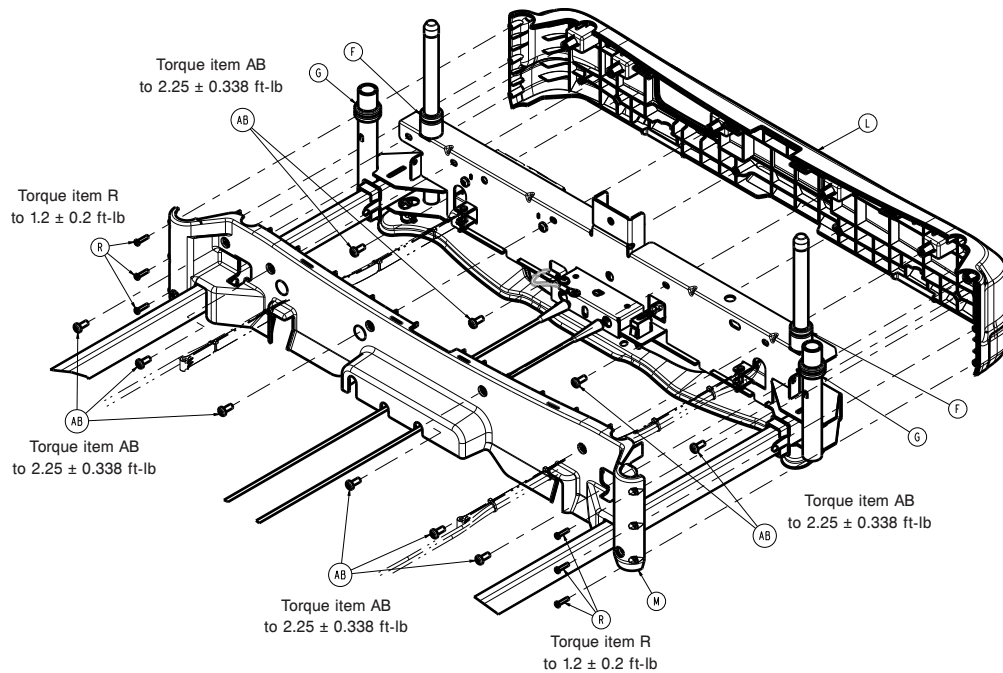

Figure 10 – Replacing the cover
6. Using a T15 Torx driver, remove the six outer screws (R) that secure the front cover (L) to the rear cover (M) (Figure 10). Save the screws.
7. Using a T30 Torx driver, remove the six screws (AB) that secure the front cover to the rear cover (M) (Figure 10). Save the screws.
9. Using a T30 Torx driver with a ratchet and 3" extension, remove the four screws (AB) that secure the front cover to the extender frame (Figure 10). Remove and discard the front cover.
- Using a T15 Torx driver, remove the six outer screws (R) that secure the front cover (L) to the rear cover (M) (Figure 10). Save the screws.
- Using a T30 Torx driver, remove the six screws (AB) that secure the front cover to the rear cover (M) (Figure 10). Save the screws.